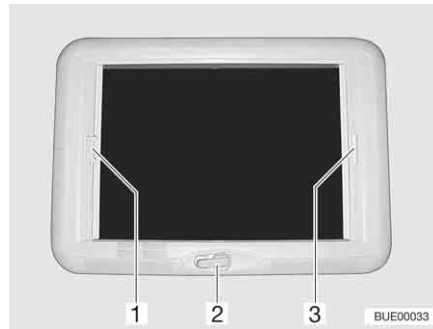

Fig. 93 Wind-up skylight
**Opening:** ■ Rotate the hand crank (Fig. 93,2) until a resistance can be felt (max. opening angle 70°).
**Closing:** ■ Pull the handle of the Roman shade (Fig. 93,3) and release in the desired position. The Roman shade will stay in that position.
**Closing:** ■ Pull the handle of the insect screen (Fig. 93,1) and release in the desired position. The insect screen will stay in that position.